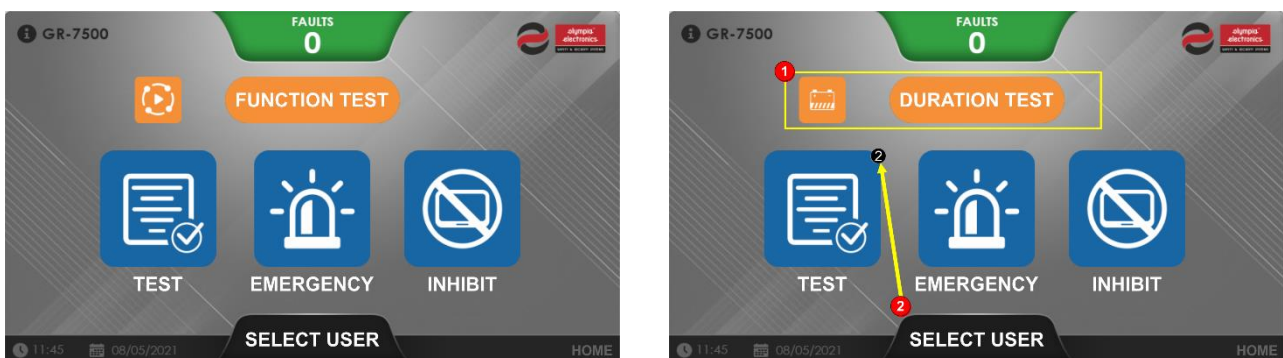

Figure 25
The “**DURATION/FUNCTION TEST**” message on the home screen (Figure 25, ref 1) indicates that at least one point is in function/duration test and the exact number is displayed in the upper right corner of the relevant icon (Figure 25, ref 2).